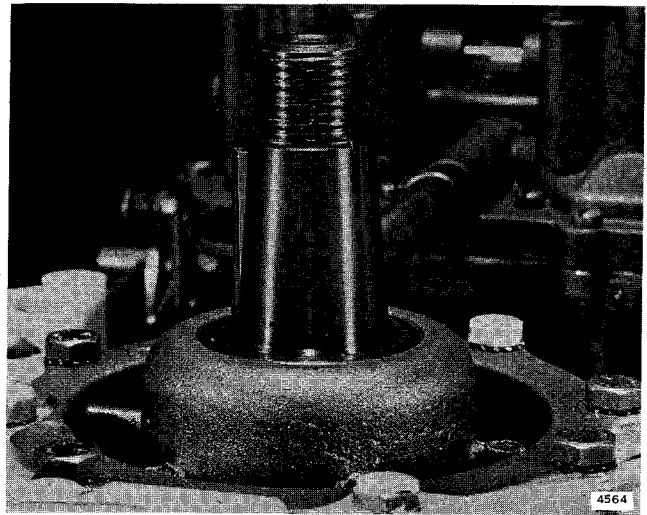

Figure 5-35. Correct Position of Flywheel Key
g. Assemble flywheel key to crankshaft with outer edge vertical. See Figure 5-35. Install timing belt. Replace flywheel, and tighten flywheel nut to specified torque.